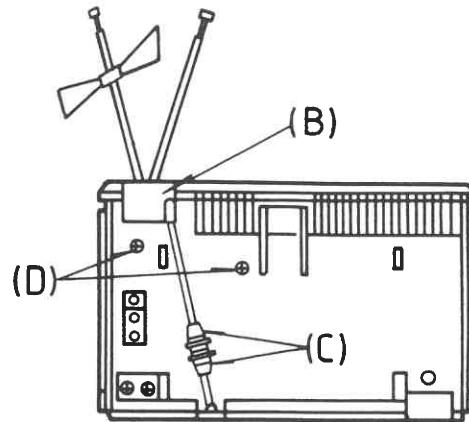

Figure 2
2. Remove antenna base (B). (See figure 2)
3. Unscrew RF cable plug & jack (C). (See figure 2)
4. Remove 2 screws (D) from the top cabinet back side. (See figure 2)